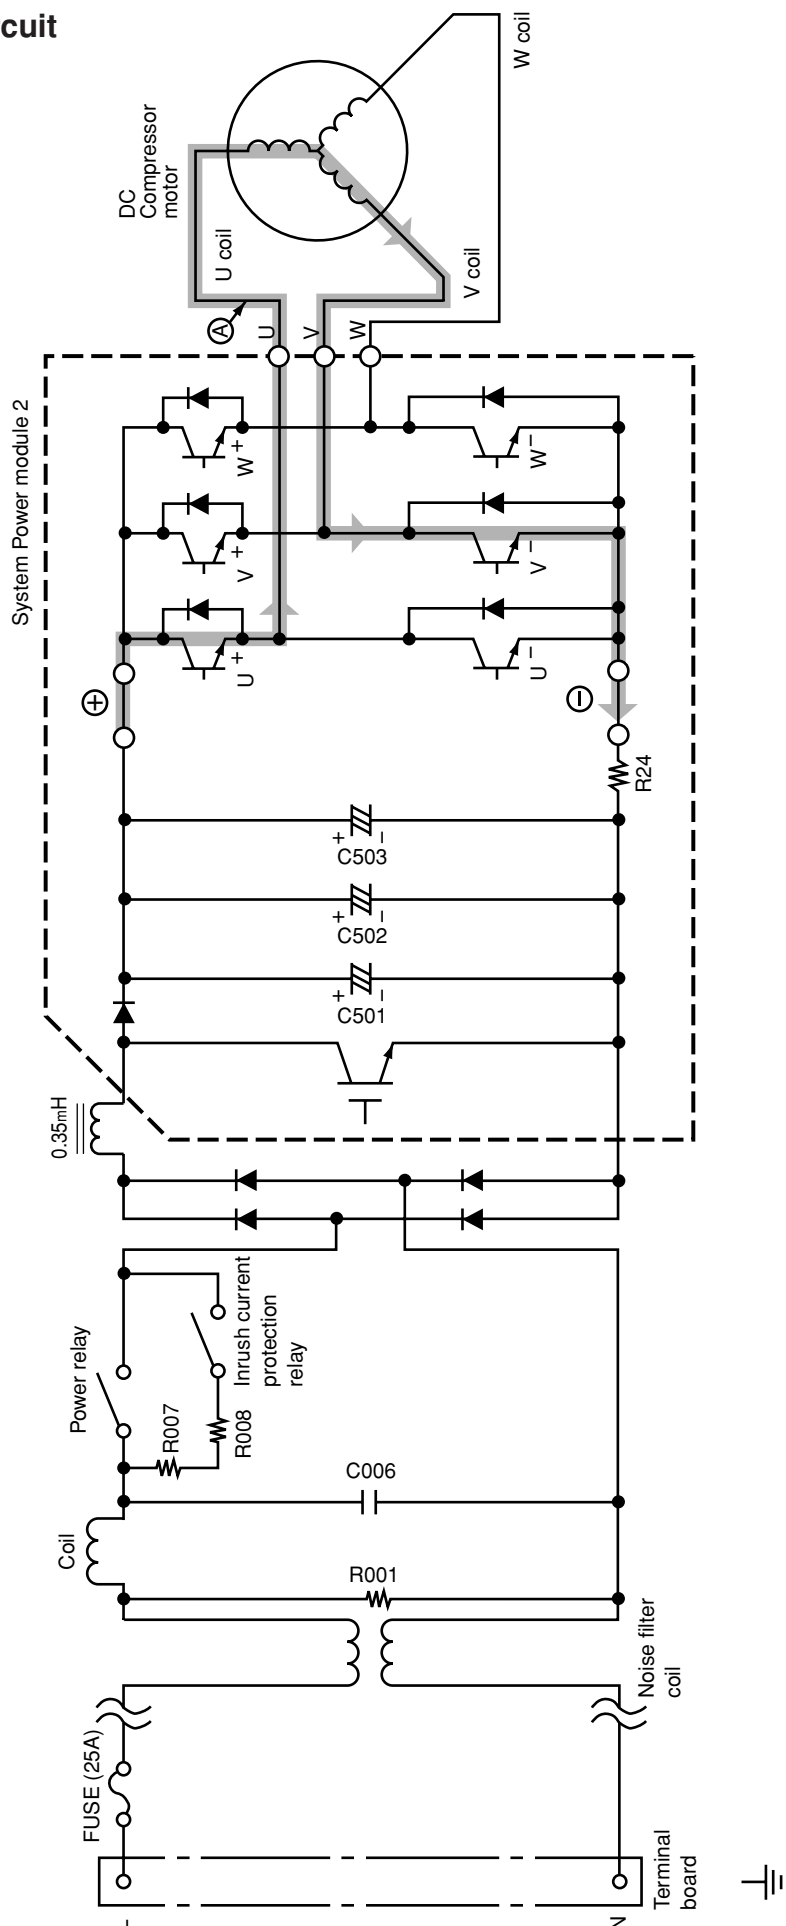
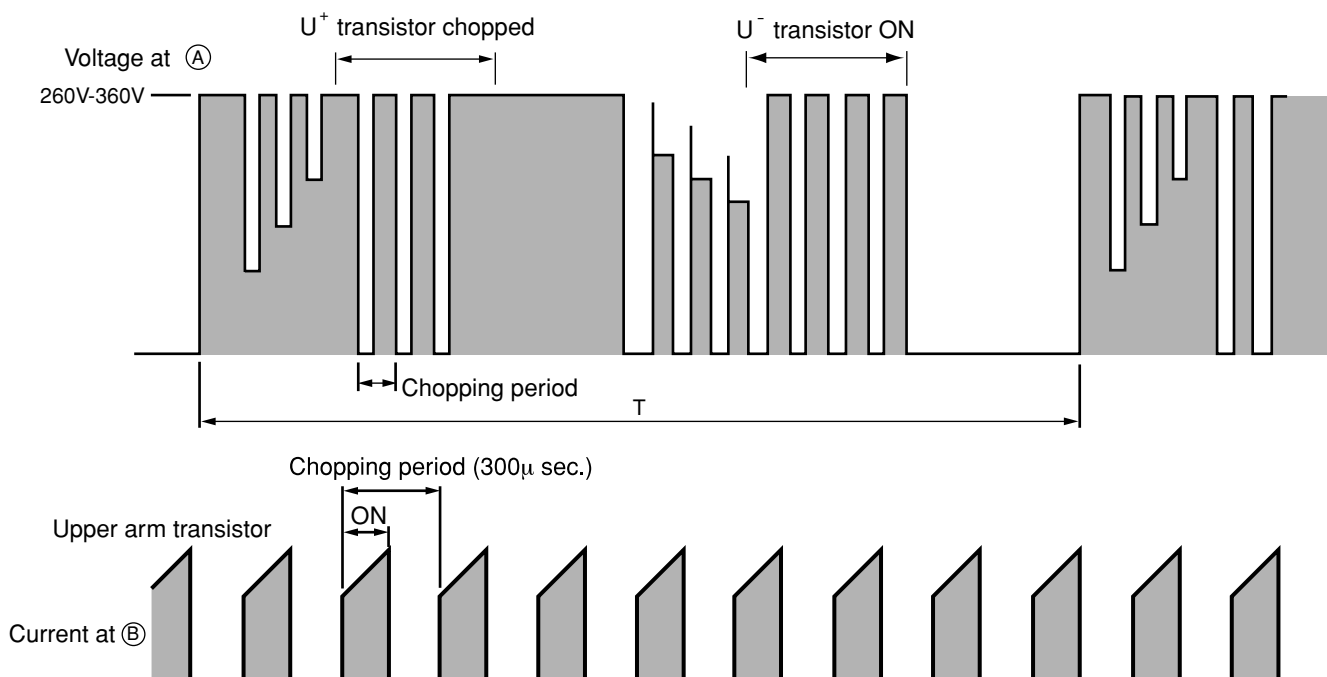

Fig. 3-1 Power module circuit (U⁺ is ON, V⁻ is ON)
Fig. 3-3 Voltage waveform at each point
• Fig. 3-1 shows the system power module and its peripheral circuit.
- Fig. 3-3 shows voltage waveform at each point shown in Figs. 3-1 and 3-4. First half of upper arm is chopper, second half is ON, and first half of lower arm is chopper, second half is ON.
- When power is supplied $U^+ \rightarrow U^-$, because of that U^+ is chopped, current flows as shown below; (B)
- (1) When U^+ transistor is ON: U^+ transistor \rightarrow U coil \rightarrow V coil \rightarrow V^- transistor \rightarrow DC current detection resistor \rightarrow Point (B) (Fig. 3-1)
- Since current flows at point (B) only when U⁺ transistor is ON, the current waveform at point (B) becomes intermittent waveform as shown in Fig. 3-3. Since current at point (B) is approximately proportional to the input current of the air conditioner, input current is controlled by using DC current (Id) detection resistor.